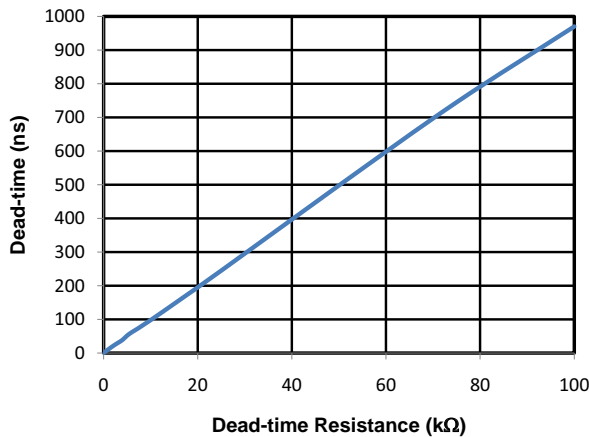

Figure 37. Dead Time vs. Resistance ( $R_{DT}$ )
All high-side/low-side drivers (Si8241/4) include programmable overlap protection to prevent outputs VOA and VOB from being high at the same time. These devices also include programmable dead time, which adds a user-programmable delay between transitions of VOA and VOB. When enabled, dead time is present on all transitions, even after overlap recovery. The amount of dead time delay (DT) is programmed by a single resistor (RDT) connected from the DT input to ground per Equation 5. Minimum dead time (approximately 400 ps) can be achieved by connecting the DT pin to VDDI. Note that dead time accuracy is limited by the resistor's ( $R_{DT}$ ) tolerance and temperature coefficient. See Figures 37 and 38 for additional information about dead time operation.